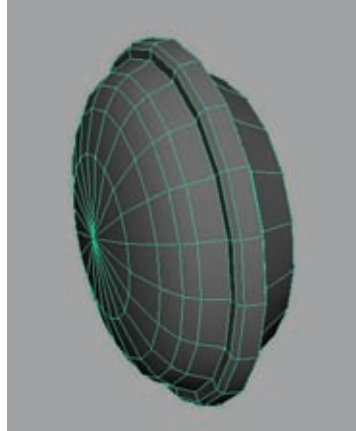

Figure 4.40
4. Again, select the back face and apply an extrude command. Scale it in about a quarter of the thickness of the back face. Apply a second Extrude and pull it out to give it some thickness. You should have something similar to Figure 4.40 when you're done.